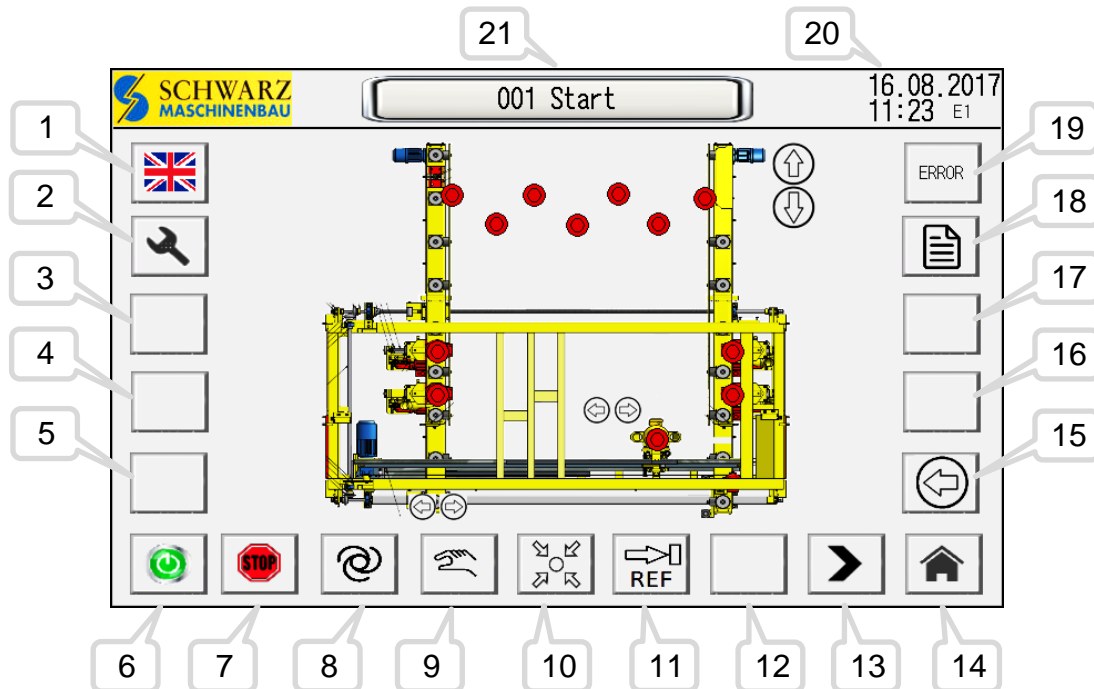

Figure 5.1 Operating panel "001 Start"
- ⇒ If the frame formwork is to be cleaned again or if settings are required, push the icon "Reverse" (see Figure 5.1 Operating panel "001 Start", page 20) to supply the frame formwork to the plant again. Transport of the frame formwork from the outlet roller table to the inlet roller table thus is not required.